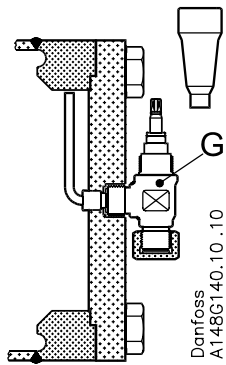

fig. 4
Incondensable gases might accumulate in the upper part of the float valve. Purge these gases by means of the purge valve pos. G (fig. 4).
- 1) **NB!** Before opening up the float valve, the system must be evacuated and the pressure equalized to atmospheric pressure by using the purge valve pos. G (fig. 4)